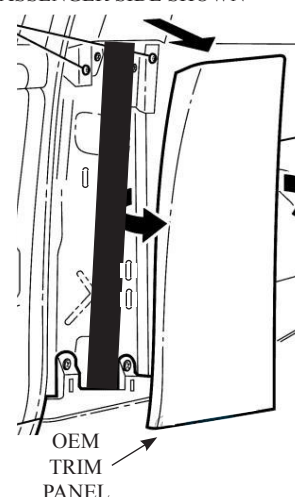

FIG. 2
against the B-pillar face. (See Fig. 2).
C. Orient the B-pillar bracket so the bottom tab fits into the slot on the B-pillar and the formed edges wrap around the B-pillar. Push up on the Bracket until the tab is at the top of the slot. Using the supplied Self-Drilling screws (3X162) secure the B-pillar bracket to the vehicle b-pillar. (See Fig. 2)